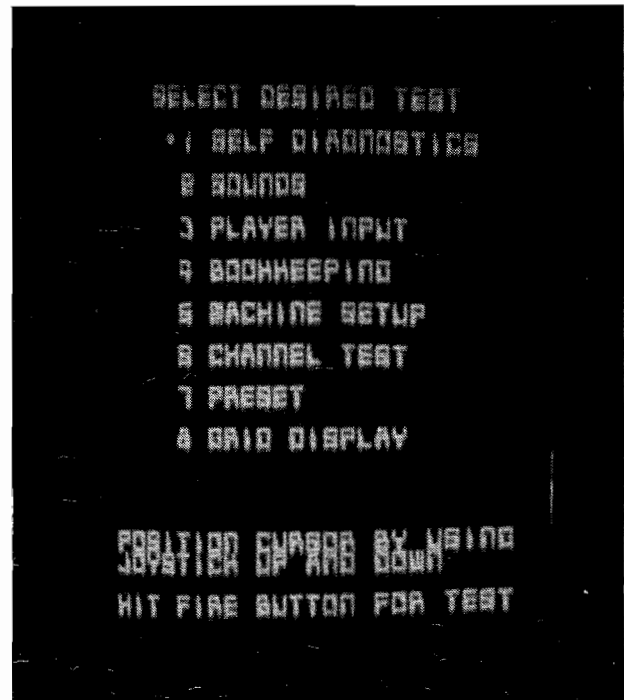

Figure 4 Self-Test—Menu
The Self-Test mode has eight (8) major categories as illustrated by Figure 4.